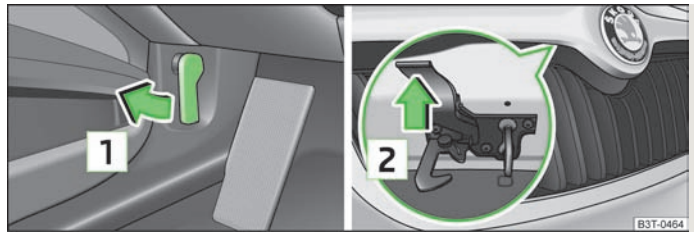

Fig. 159 Bonnet release lever/radiator grille release lever
- Pull the release lever under the dash panel **1** » Fig. 159.
- Press the release lever in the direction of the arrow **2** » Fig. 159 and the bonnet is unlocked.